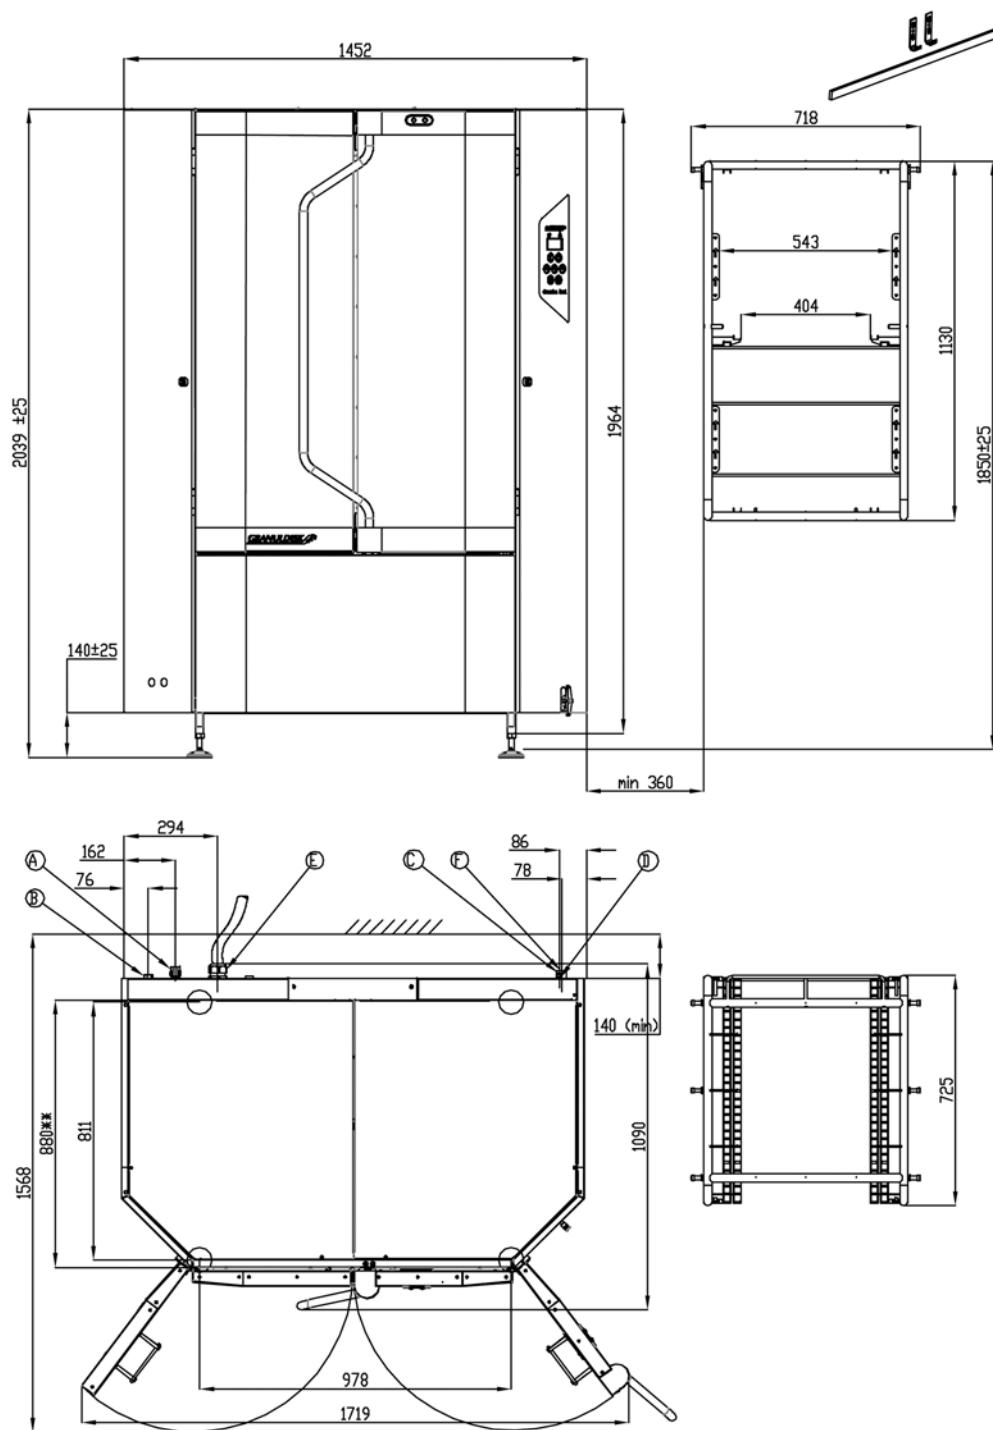

Figure 2:
5. Connect the hot and cold water (A and B Figure 2 ,on page 13).
The connections are located at the back of the machine – (Figure 2) and are marked red and blue . Use flexible connection hoses with a minimum internal diameter of 9 mm. Ensure that there is at least 500 mm of extra hose in order to make it possible to move the machine forward for service. Incoming water must be at a pressure of 1-6 bar when the solenoid valve is open. If the water pressure is in excess of 6 bar, a relief valve must be installed.
6. Connect the drain pipe on the back right to the drain Ø 32 mm (C Figure 2 ,on page 13). Place the valve in open position (shown by symbols on the side panel). The drain capacity must be at least 100 litres/minute. The machine should not be placed directly over a floor drain, since it is important for the drain to be accessible for cleaning.
7. All electrical connections in the electrical cabinet must be tightened before the electrical supply is connected. Connect the electric cable (E Figure 2 ,on page 13) to a supply disconnecting device on the wall. Check that the power supply complies with the Technical Data on the rating plate.
4. Take the front and the rear wooden profiles and cut off a part of them according to Figure 2.